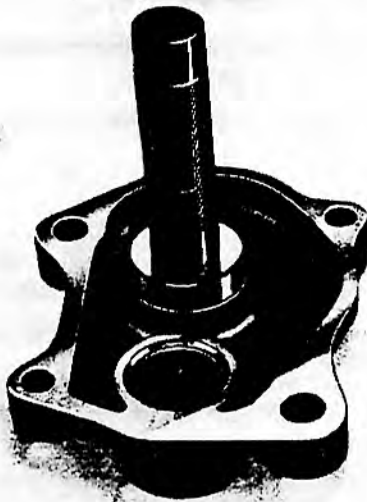

FIG. 9.
3. Using Service Tool MF.18 as shown in Fig. 9, replace rocker shaft bushes.